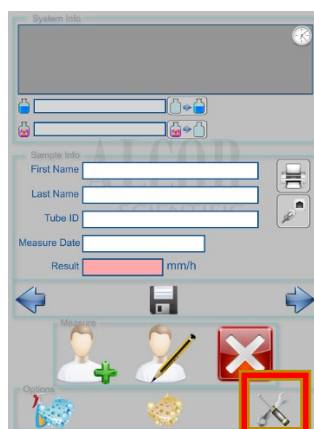

Figure 38
- 10.1. On the Main screen, press the "Tools" icon. Figure 38